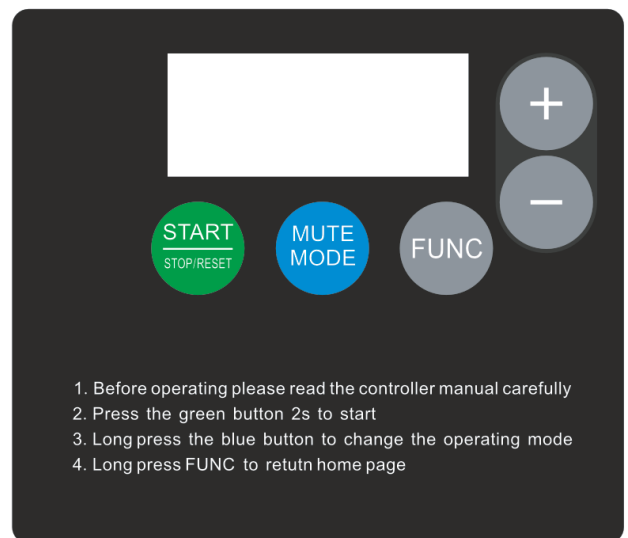

Figure 2
3. Turning the air compressor on: Insert the power plug into the power socket first, and then pull the button on the pressure switch upward to engage the contactor. At this time, the controller will illuminate and is powered on (see Figure 2).